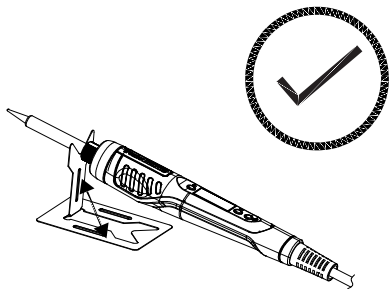

Fig. 2 - Correct storage of Soldering Iron when not in use
- While in use do not stand or store Soldering Iron on its side. Soldering Iron could tip resulting in contact between hot tip and flammable materials. Always set/store Soldering Iron on metal stand provided (Fig. 2)
3. Connect Soldering Iron to mains current and place on the metal stand provided. (Fig. 2)
14. Place Soldering Iron on Metal Stand provided on its side with the tip away from working area (Fig. 2)